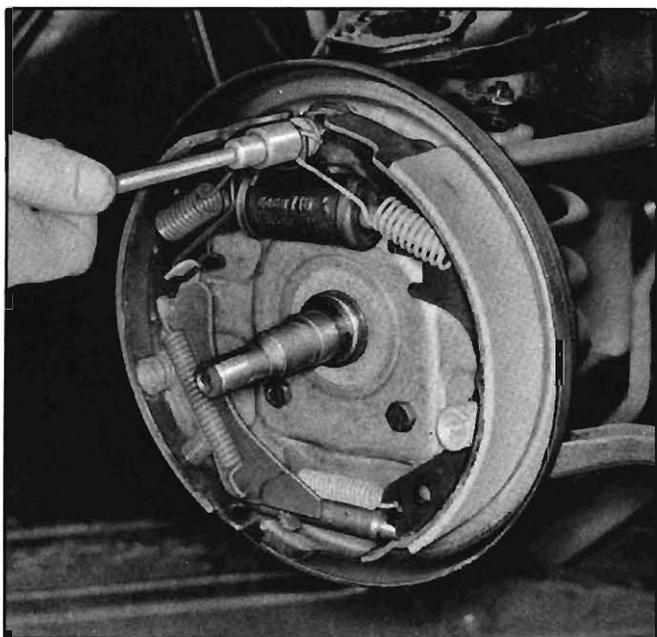

Fig. 5-8—Unhooking Pull Back Springs
4. Unhook brake shoe pull back springs from anchor pin and link end, using Tool J-8049 (fig. 5-8).